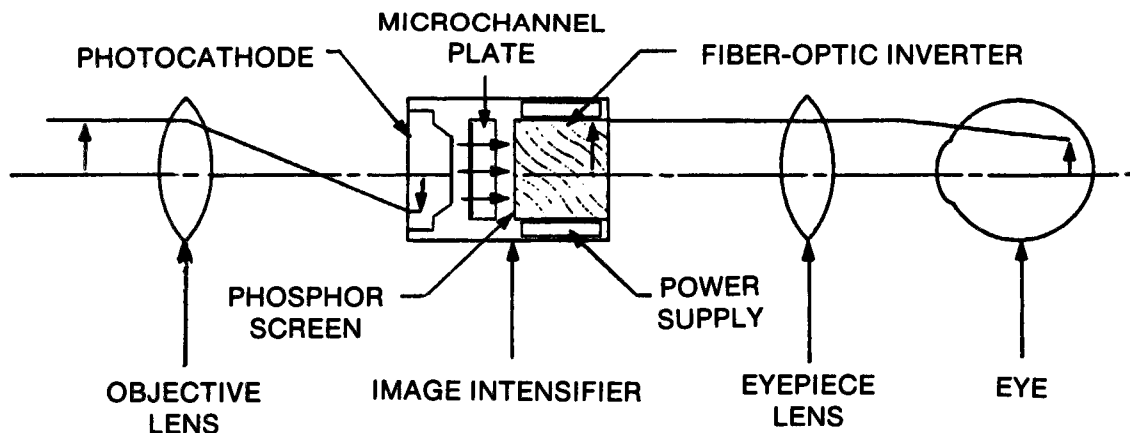

Figure 1-5. Optical Functional Diagram
b. Functional Diagram Description. The NVG are an electro-optical system consisting of two monocular with identical optical features and functions (fig. 1-5). The goggles are of unity (1:1) magnification. Each monocular contains an objective lens, an image intensifier, and an eyepiece lens. The objective lens receives available light as luminous energy and transmits it to the photocathode of the image intensifier. It is amplified, projected on the phosphor screen of the monocular, and received by the eyepiece lens as an intensified image. Optical inversion of light passing through the objective lens is reversed by a fiber-optic inverter at the phosphor screen end of the tube so that the image received by the eyepiece is in its proper perspective.